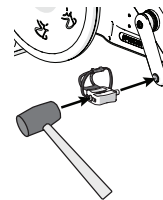

Figure 11
3. Use a rubber mallet to lightly tap the center of the pedal into the crank arm to seat it (Figure 11).